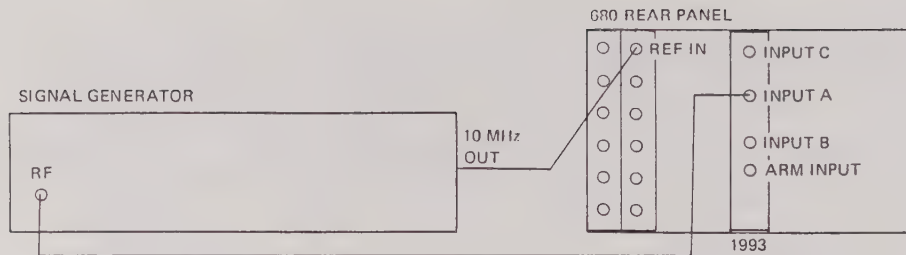

Fig. 6.3 Connections for Channel A Input System Adjustment
- (1) Switch the 680 on. Select function FREQ A.
- (2) Select 50 ohms impedance for channel A.
- (3) Set the RESOLUTION to 3 digits.
- (4) Connect the test equipment as shown in Fig 6.3.